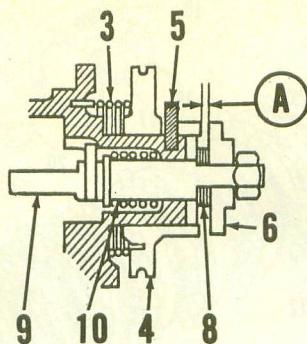

Fig. Y7-7—Clearance (A) is adjusted by varying shims (8).
Check the minimum plunger stroke by turning starter plate (16) until clearance (A)—Fig. Y7-7 between pulley and adjusting plate is at minimum. Clearance (A) should be 0.20-0.25MM (0.008-0.0098 inch) on DS6 models and 0.25-0.35MM (0.0098-0.013